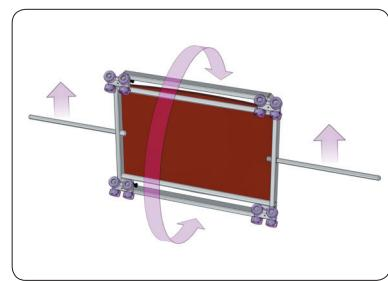

Fig.3
- > The push bar can also be used as handles for moving the frame. (Fig.3)